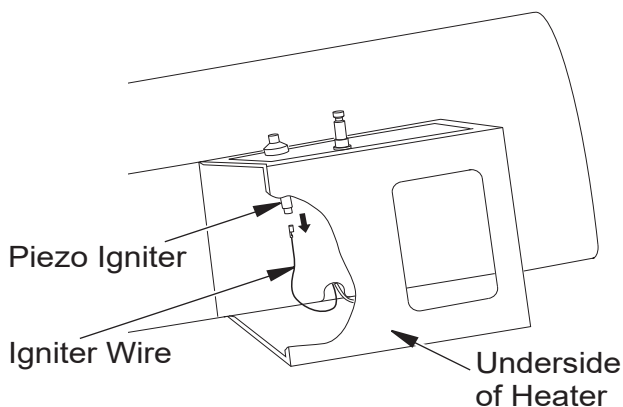

Figure 10 - Removing Igniter Wire from Piezo Igniter
2. Remove the black igniter wire from Piezo igniter. Access the igniter wire through the underside of the heater base (see Figure 10). Push the wire up through the notch in the filler panel.